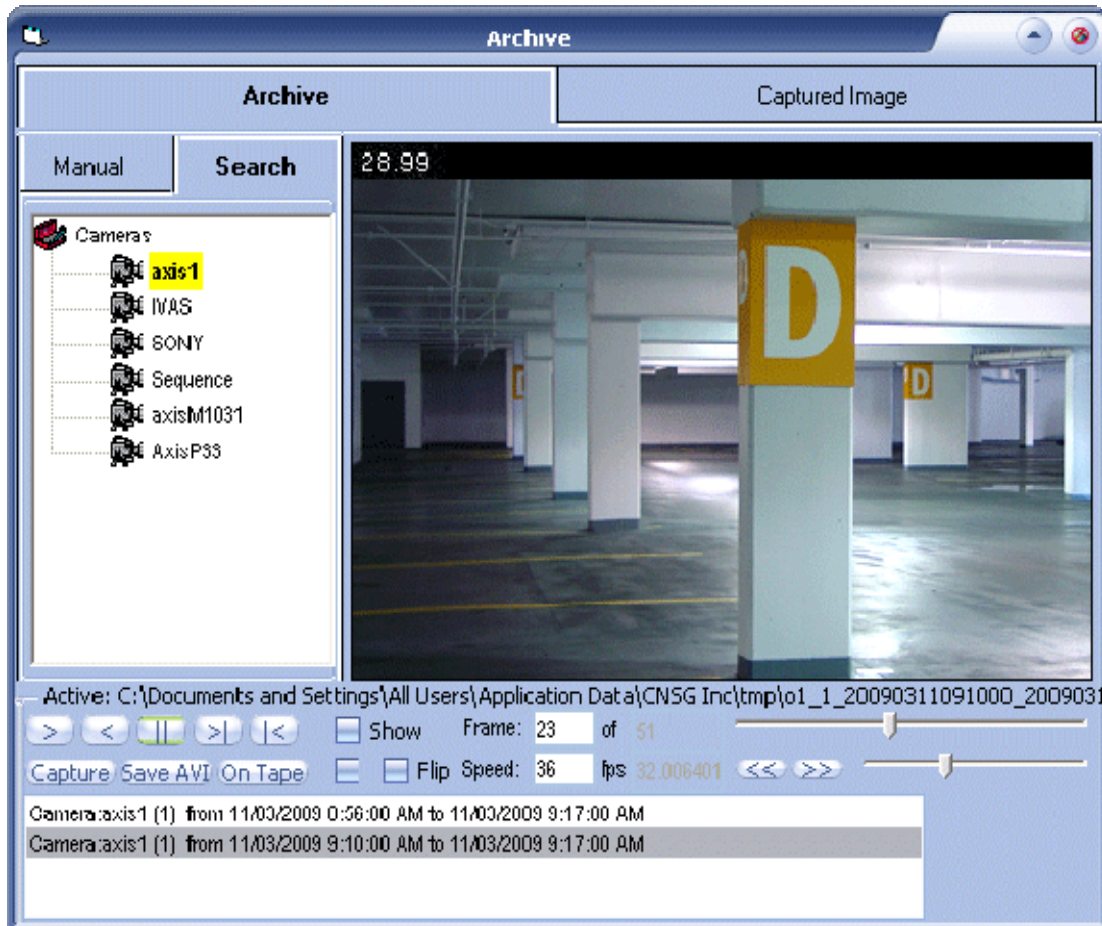

Fig 119. DETEXI Client — Archive Tool
1. **Double-click** the portion of video listed to view the first frame (Fig 119).